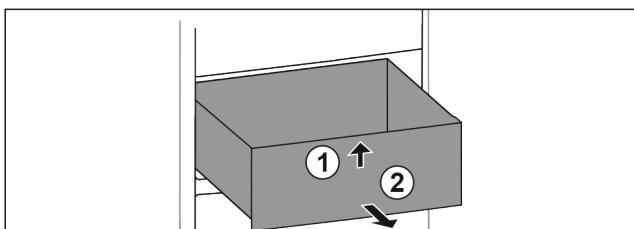

Fig. 112
- Lift up drawer at the front. Fig. 112 (1)
- Remove drawer to the front. Fig. 112 (2)